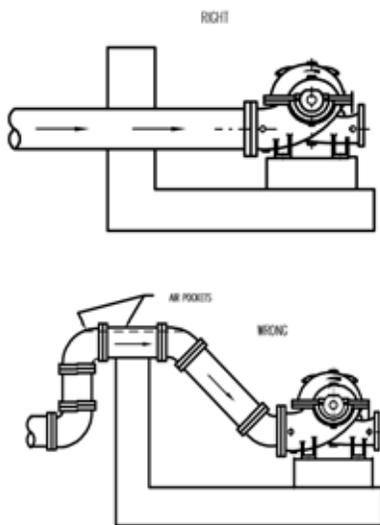

Fig. 5 Suction piping (Avoid high points)
- Avoid any high points, such as pipe loops, as shown in Fig. 5, that may create air pockets and throttle the system or produce erratic pumping.